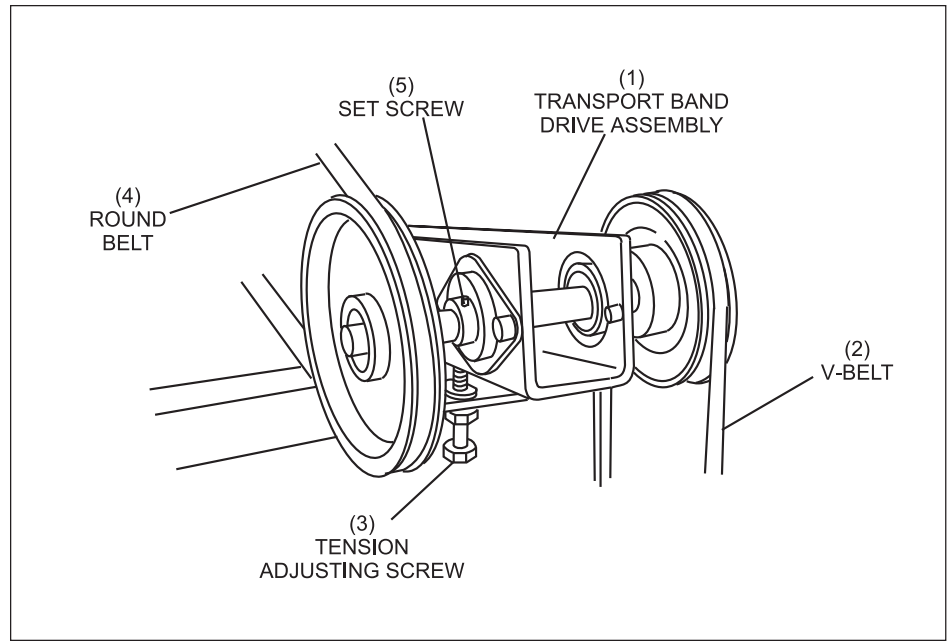

Figure 5-5. Tension Adjustment.
- b. Loosen the tension adjusting screw. Refer to *Figure 5-5*.
- (1) TRANSPORT BAND DRIVE ASSEMBLY
- (2) V-BELT
- (3) TENSION ADJUSTING SCREW
- (4) ROUND BELT
- (5) SET SCREW